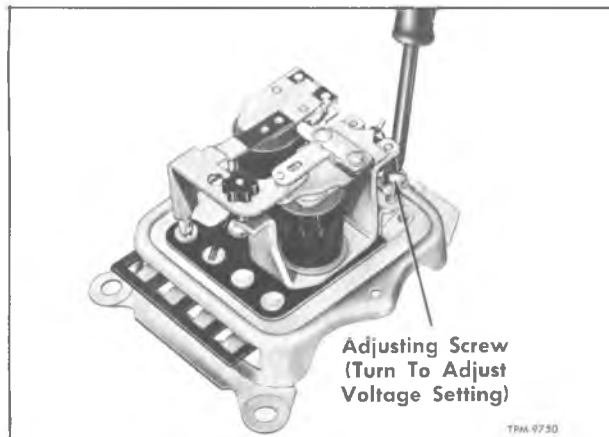

Figure 13—Adjusting Voltage Setting (Two-Unit Type Regulator) (Typical)
7. To adjust the voltage setting, turn adjusting screw as shown in figure 13.